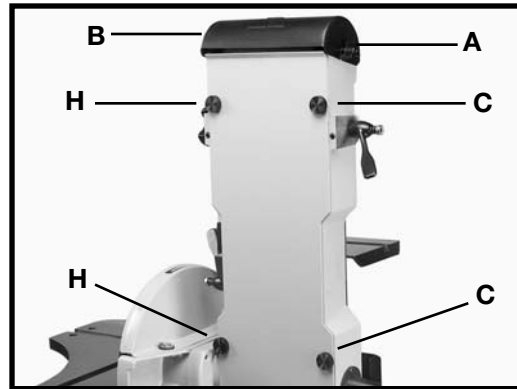

Fig. 42
2. Loosen the two lock knobs, one of which is shown at (A) Fig. 42, and remove the top cover (B).
3. Loosen the two screws (C) Fig. 42 until they are out of the casting. Loosen the other two screws (H) enough to allow the back panel (D) to hinge open. **NOTE:** The screws (C and H) cannot be removed.